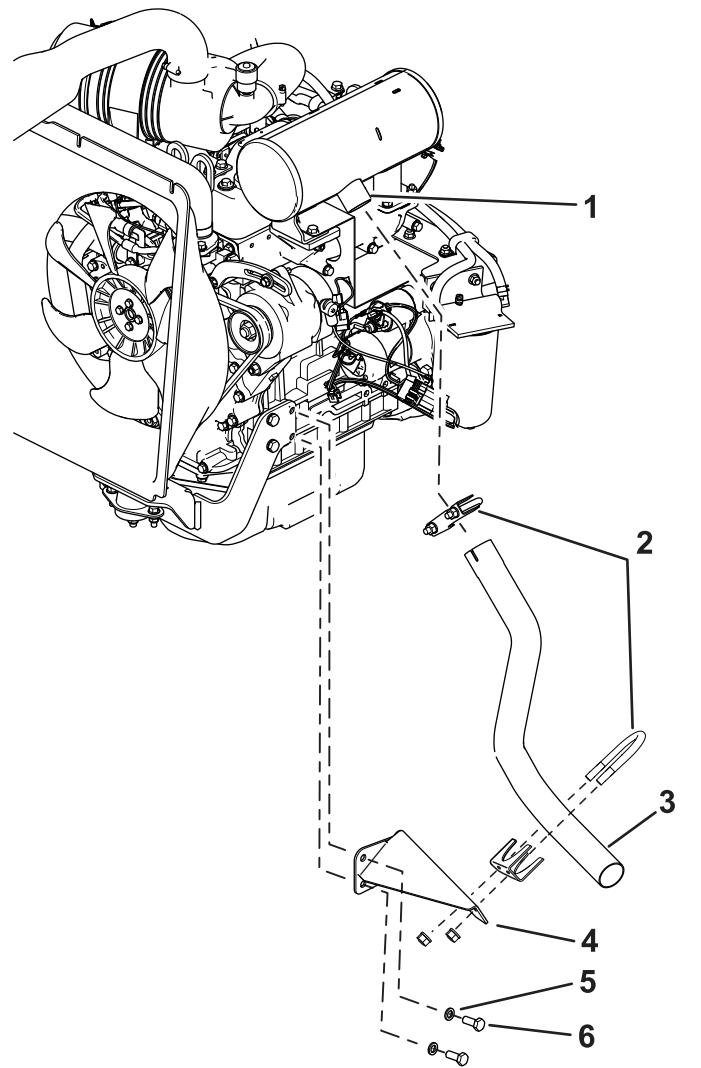

Figure 11
4. Install the new support assembly to the side of the engine with the previously removed washers and engine bolts (Figure 11).
5. Slide the existing clamp over the new exhaust pipe and install the new exhaust pipe onto the muffler outlet (Figure 11).
6. Install the new clamp around the new exhaust pipe and to the support assembly with the clamp hardware (Figure 11).
- Torque the engine bolts to 54 N·m (40 ft-lb) and then tighten all of the clamps (Figure 11).